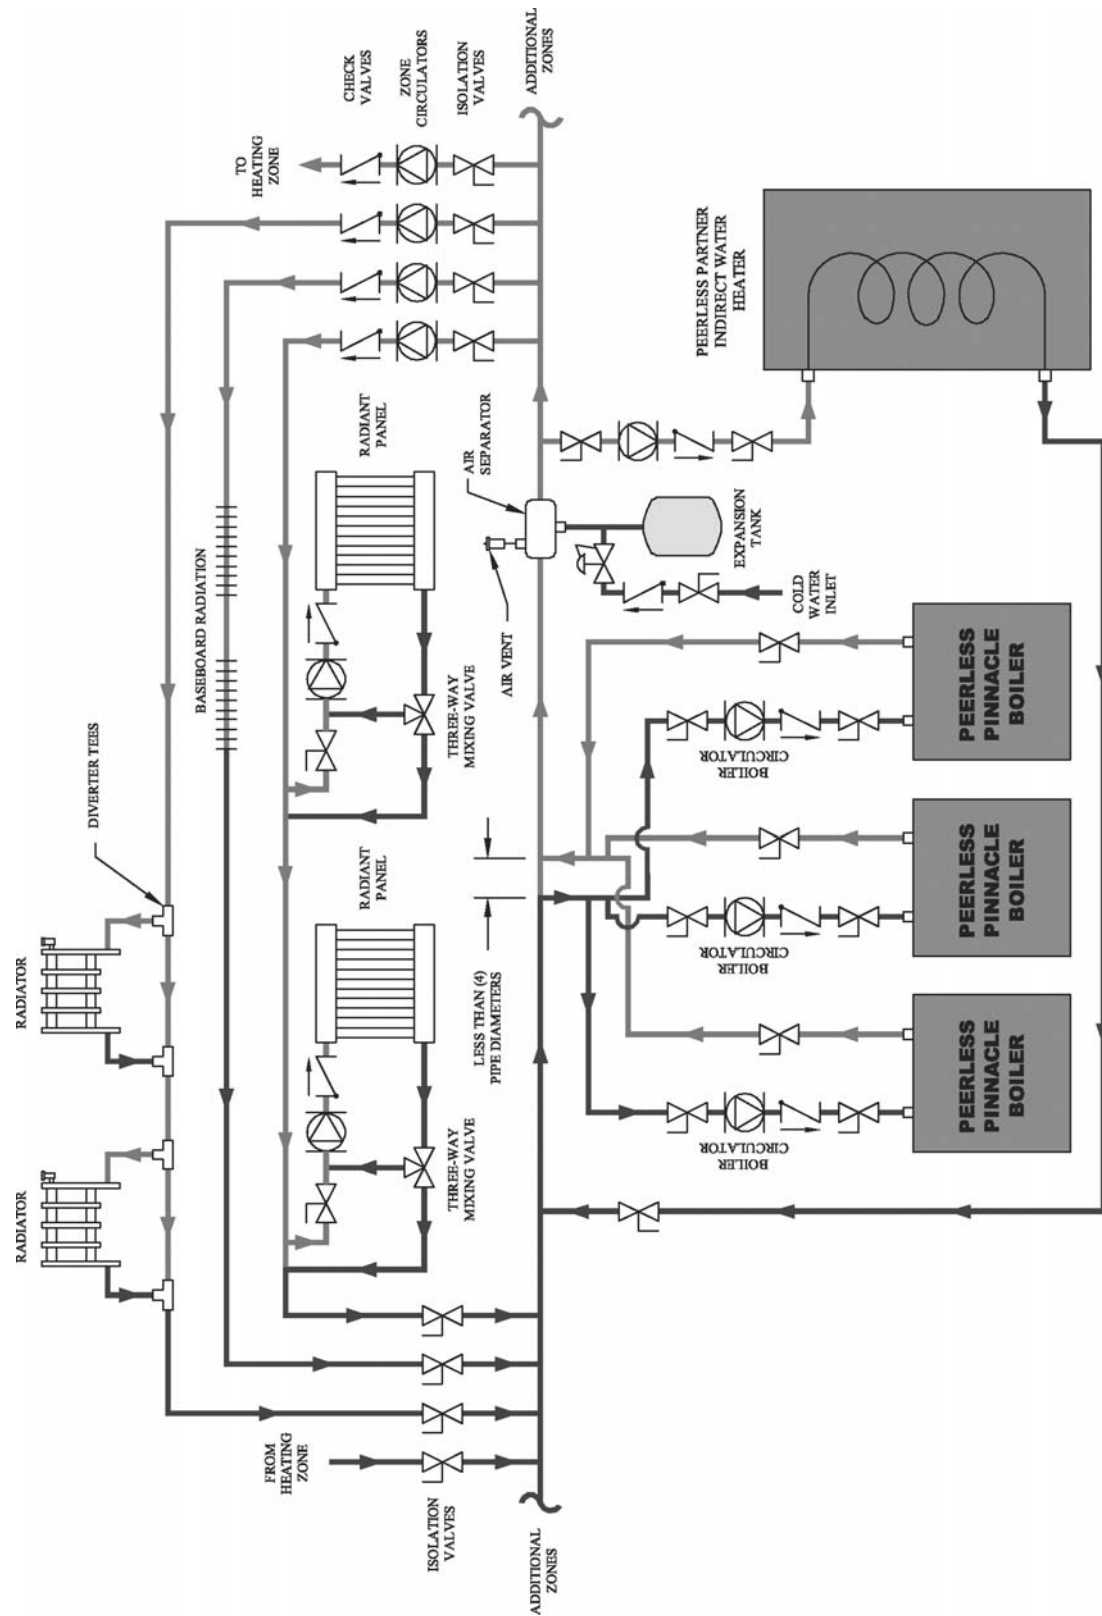

Figure 3.6
- d. Figure 3.6: This illustration shows a system in which different types of loads and multiple boilers are employed. This system illustrates how different temperature loops can be combined by mixing down the supply temperature through a bypass. Radiant flooring typically requires much lower temperatures than baseboard radiation and indirect water heating, therefore a three way mixing valve is used to temper the supply.